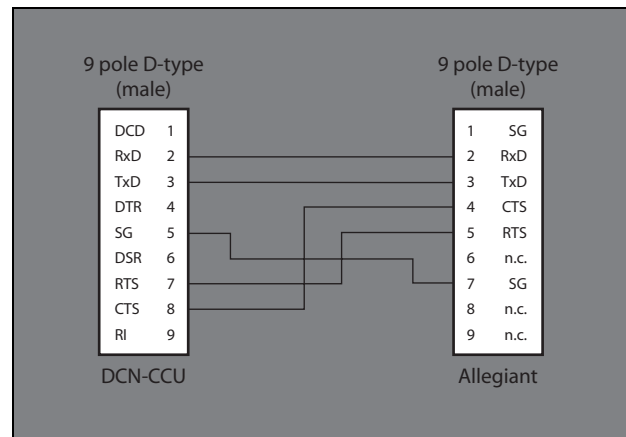
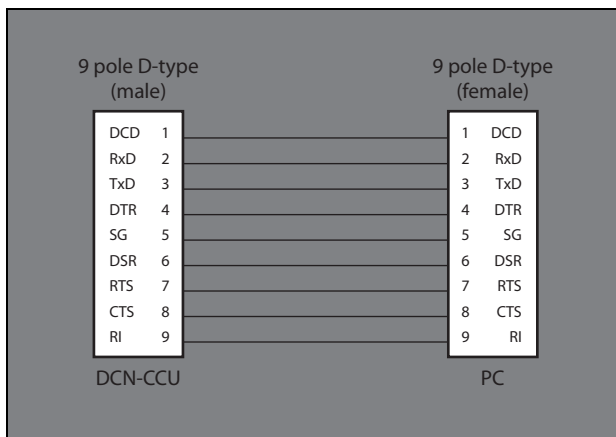

figure 8.28: DCN-CCU to Allegiant
figure 8.27: DCN-CCU to PC
- 2 Connect the serial ports of the central control unit to the PC and the Allegiant video switcher (refer to figure 8.27 and figure 8.28).